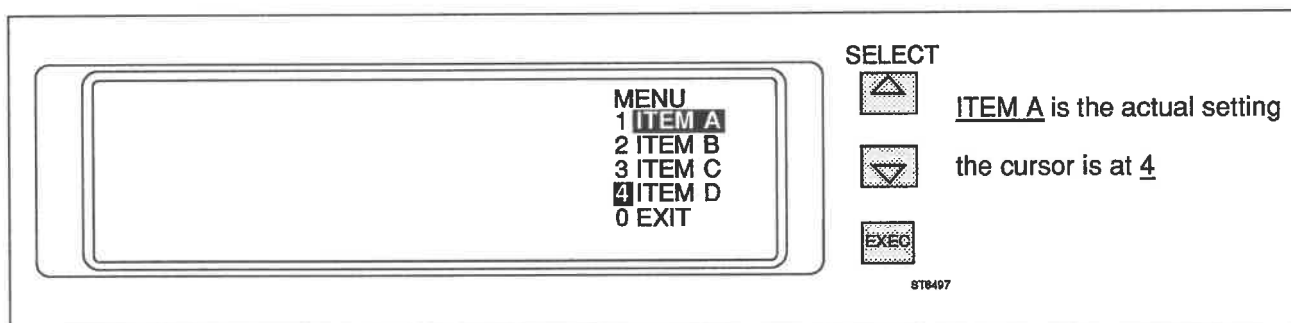

Fig. 7.4 The PM2530 operating menu.
SELECTING AN ITEM (SEE FIG. 7.4)
- the PARAMETER VALUE of the selected setting is displayed (see Fig. 7.4). It can be changed as detailed below.